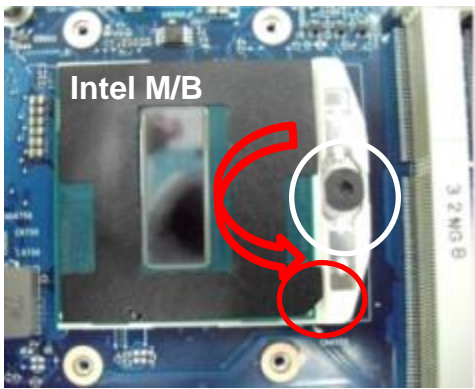

Fig.2
2. Rip the mylar on CPU. (Fig.2)